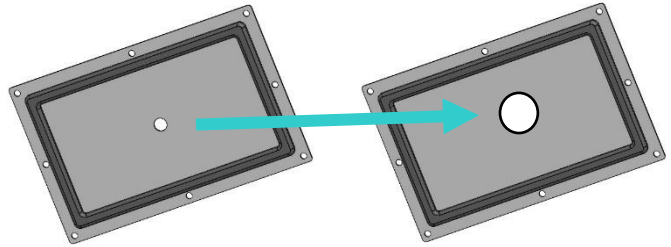

Figure 38 - Enlarge pilot hole in removeable plate to fit over conduit used for AC Input wires
4. Using a drill, enlarge pilot hole in removeable plate outside of and away from the charger. Ensure new hole is large enough to feed AC power-in conduit and wires through (see Figure 38).